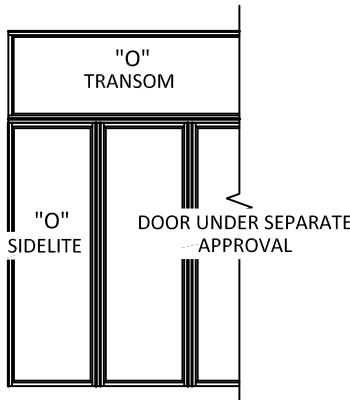

FIGURE A.3
- WINDOW UNIT MAY BE USED AS A SIDELITE TO DOOR SYSTEM. DOOR SYSTEM AND MULLION UNDER SEPARATE APPROVAL. REFER TO FIGURE A.3.